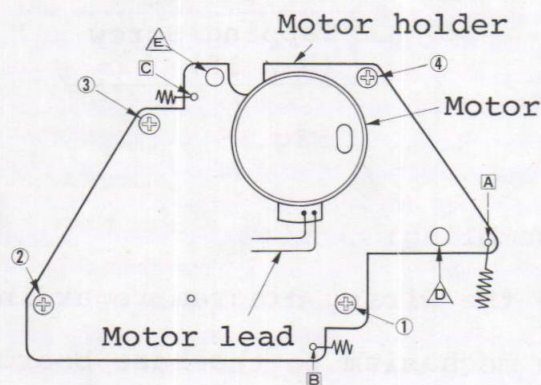

Fig. 6
- a. Remove the back tension springs applied to [A], [B] and [C] parts of the motor holder in Fig. 6.
- b. Remove screws (1) to (4) in Fig. 6 (tapping 3 x 8) and take the motor holder out.
- When the motor is removed or replaced, mount the lead wires of the motor so that they will be projecting in the direction shown in Fig. 6.